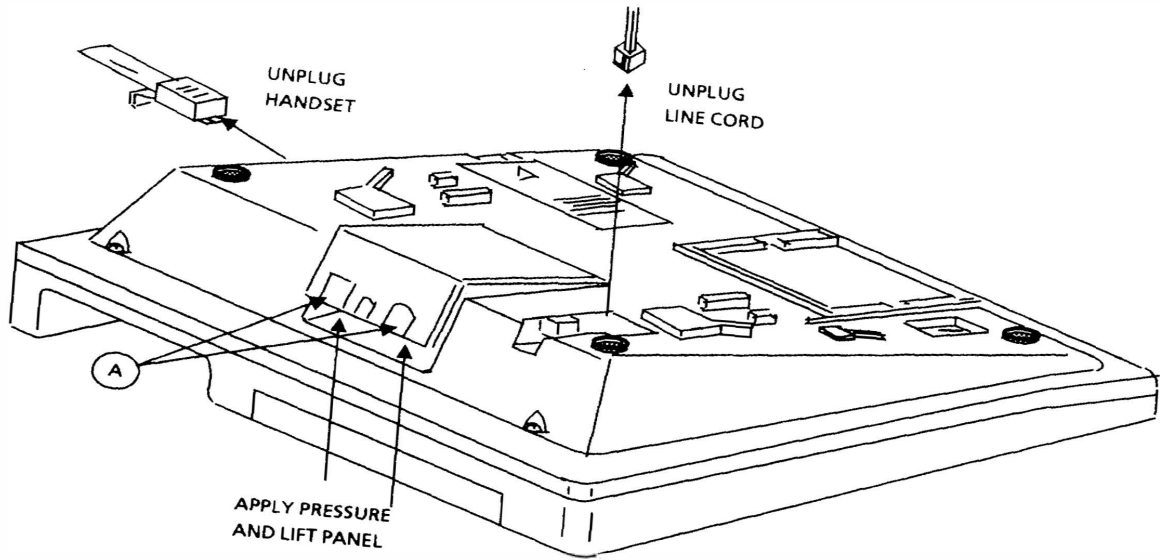

Figure 1 Access Panel Removal
- 4.4 To remove the access panel, depress in, then lift up on the access panel in the two (2) positions labeled "A" (see Figure 1). Remove the access panel.